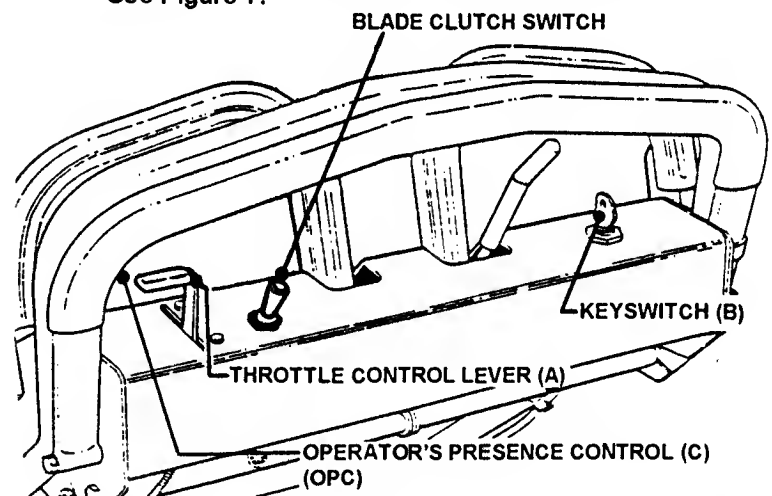

FIGURE 7
- 4a. **LOOP HANDLE** -Pull Blade Clutch Switch backward (toward operator) to the OFF position. See Figure 7.
- 9. Place Transmission Shift Lever in No. 1 position (first gear). See Figure 7.
- 10a. **LOOP HANDLE** - Push Blade Clutch Switch/Lever to **ON** position. See Figure 7.